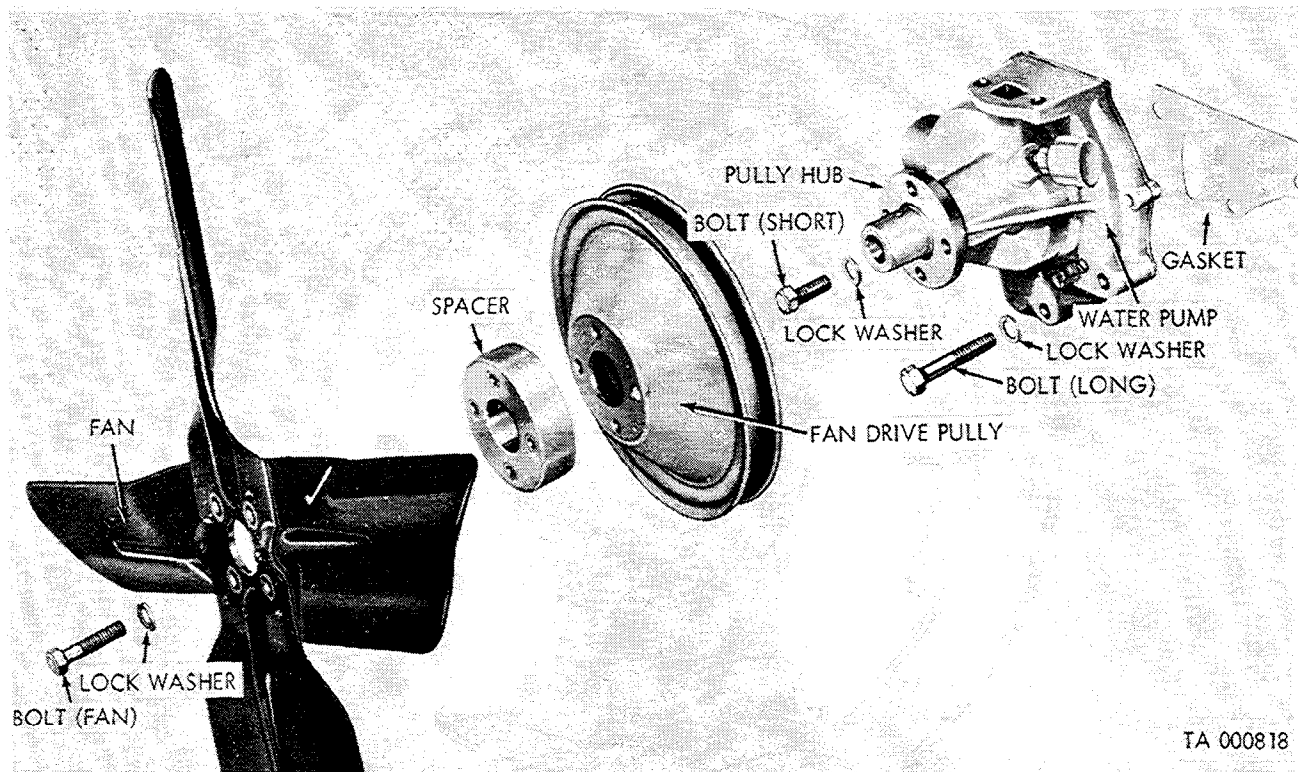

Figure 2-120. Fan, water pump, and related parts—exploded view.
(1) Loosen the fan belt (para 2-96 b) and disengage it from the fan pulley (fig. 2-120).